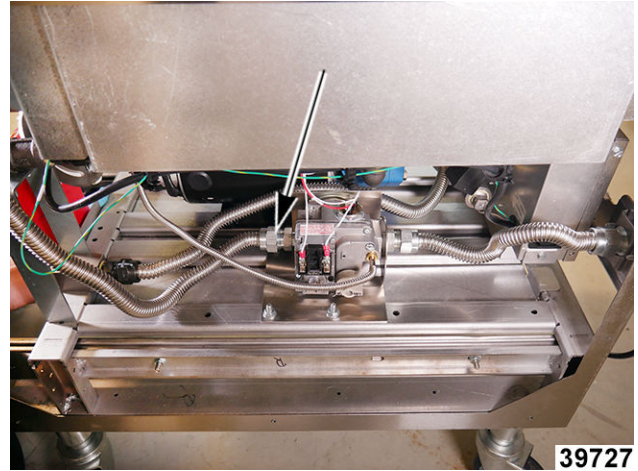

Fig. 26
- Disconnect gas line at combination valve, leave gas line connected to burner assembly (Fig. 26).
17. Connect gas line to gas valve (Fig. 26).